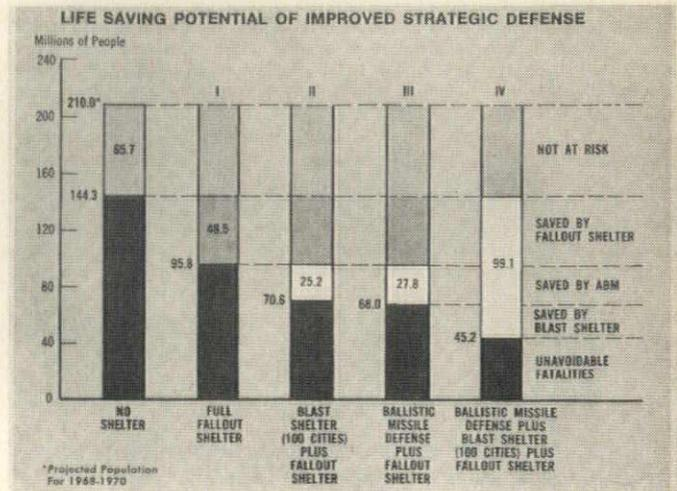
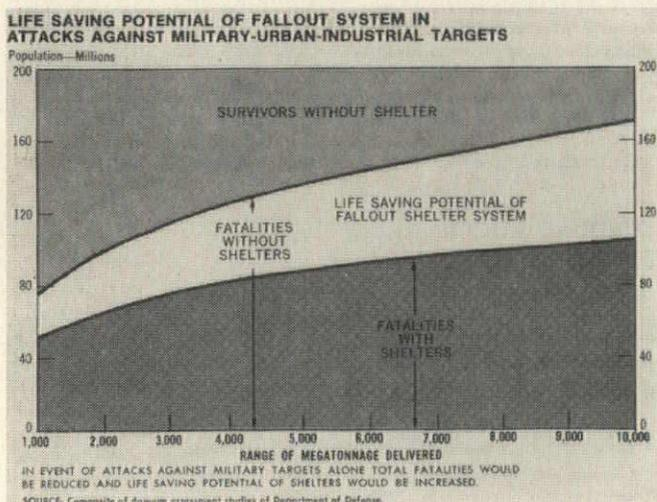

Figure 4
Figure 3
The fallout shelter oriented civil defense program is considered a fundamental element in the damage limitation structure of strategic national defense. The Department of Defense's wide range studies of hypothetical nuclear attacks against the United States show that fallout shelter would (1) be directly responsible for saving tens of millions of lives (Figure 3) and (2) have a greater life saving potential, for the relative investment involved, than any other element of strategic defense (Figure 4).
earth's surface: (1) surface bursts, (2) air bursts and (3) subsurface bursts. Effects of these bursts vary and include, in differing degrees, thermal radiation, blast and shock, initial nuclear radiation and residual nuclear radiation (Figure 3).